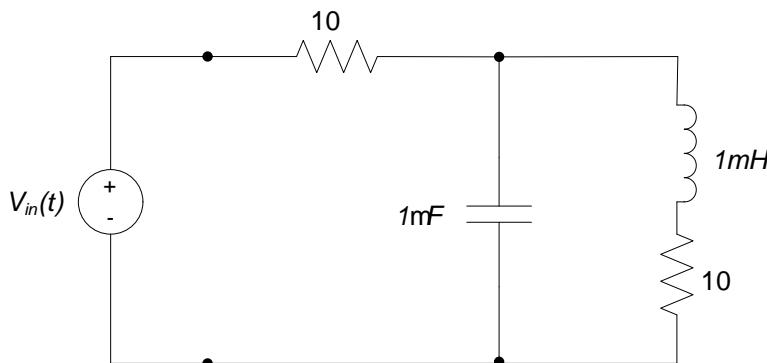

Figure 3. Circuit with capacitor in parallel with load.
- iii. Replace the 10Ω load resistor in the circuit. Modify the load to include a $1\mu F$ capacitor in parallel with the previous load, as shown in Figure 3 below. Repeat the measurements of part b above.